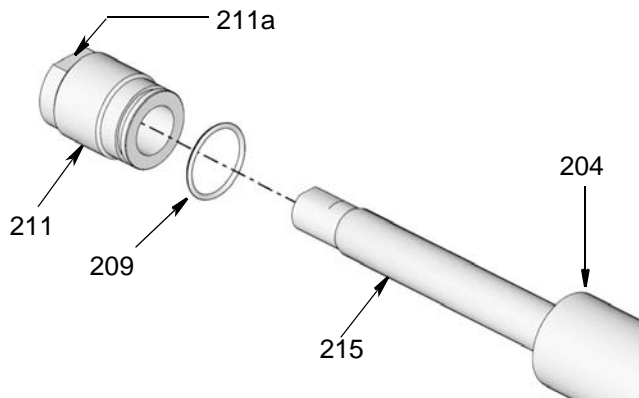

FIG. 30
- a. Use wrench on flats of priming rod (215). Remove hex nut (219).
- b. Unscrew shovel (216) and remove it from priming rod (215).
17. Use a wrench on the flats (211a) of seal retainer (211) and a strap wrench working in the opposite direction, on pump cylinder (204), to loosen and remove adapter and o-ring (209) from pump cylinder (204) (FIG. 30). Discard o-ring. Use the new o-ring included in the kit for reassembly.